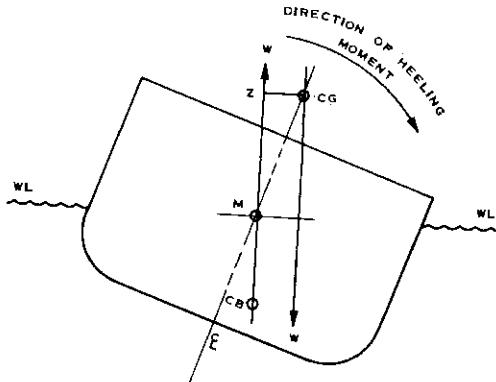

FIG. 12
4. Unstable ship. So far we have considered a ship of characteristics which will provide stability under normal operating conditions. However, other conditions may exist where a ship may be unstable. Fig. 12 shows the relations of characteristics for an unstable ship.